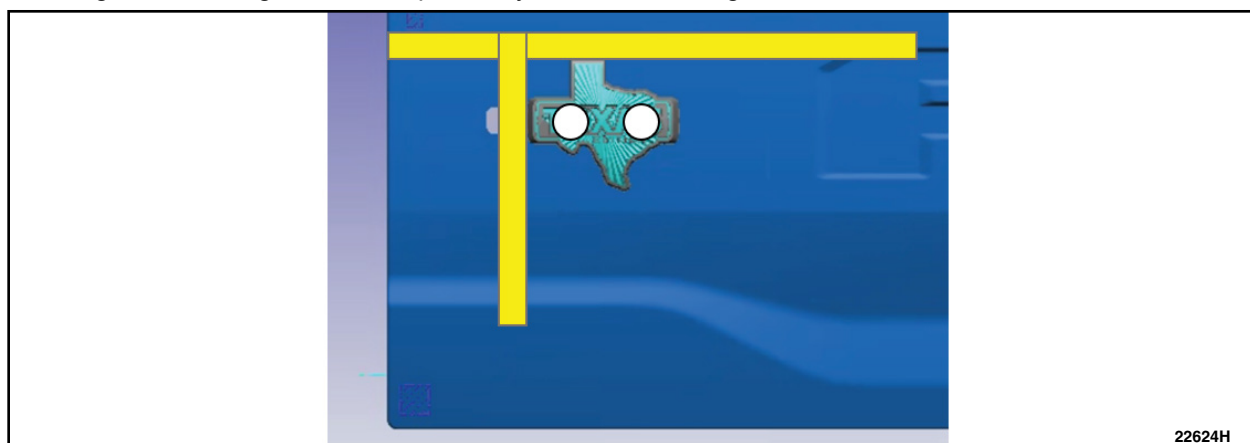

FIGURE 11
35. Remove the tape liner from the back of the badge and install to the door using the locating tape to properly align the badge. See Figure 11.
36. Using medium hand pressure, press for 3 seconds at a minimum of 2 separate locations along the length of the badge until the tape is fully adhered. See Figure 11.